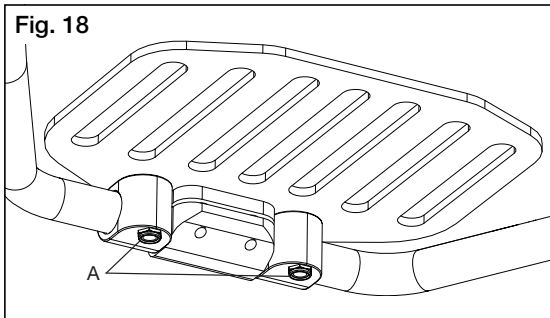

Fig. 18
1. Loosen, but do not remove, the two M6 screws (Fig. 18:A) securing the footplate to the footrest extension tube with a 4mm Allen wrench.
3. Select the desired position and retighten the two M6 screws (Fig. 18:A) to 80 in./lbs.